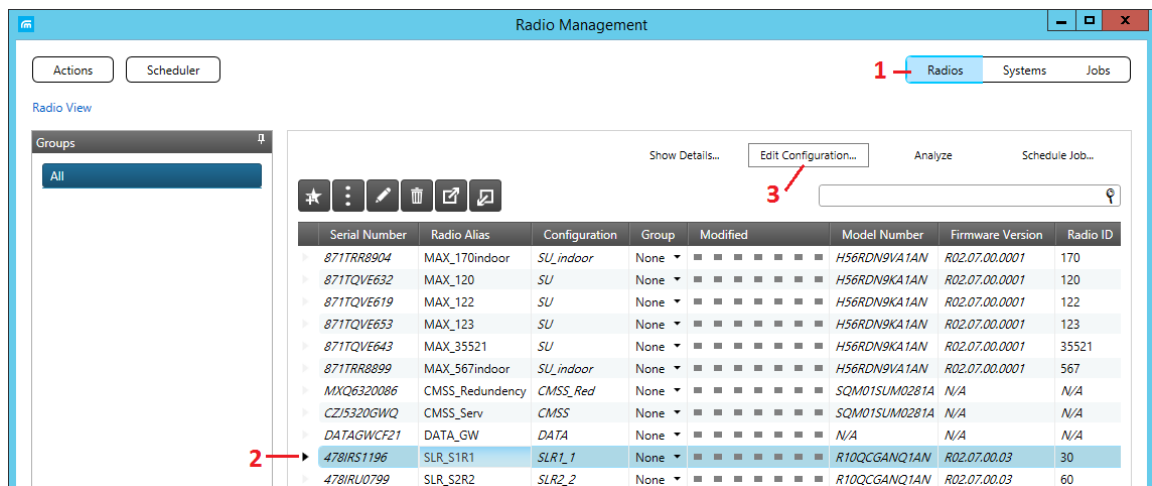

Figure 32: Opening the Capacity Max configuration for a repeater
1. Launch the Radio Management software. Click **Radios** (Figure 32, step 1).
2. In the right panel, click the arrow in front of an entry with the repeater configuration (Figure 32, step 2). Make sure that the entire line is selected.
3. Click the **Edit Configuration** button (Figure 32, step 3).